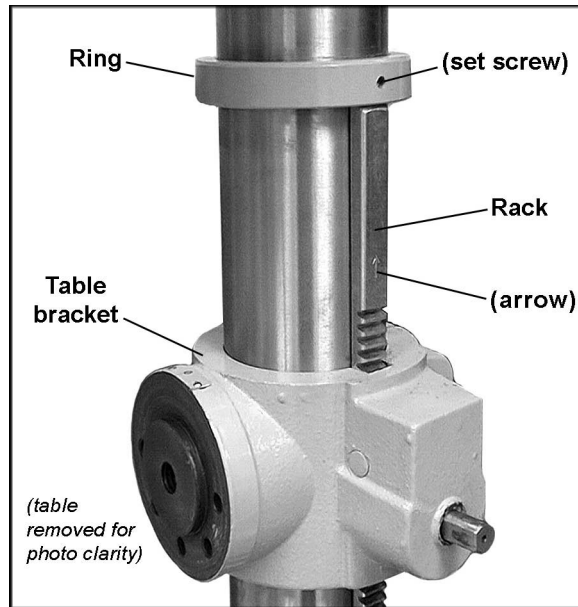

Figure 3
1. Remove the ring from the column by loosening the set screw and sliding the ring off. Also remove the rack. See Figure 3.
2. Set the table bracket (attached to the table) over the column while sliding the rack down through the slot in the table bracket and against the column (Figure 3). The lower end of the rack should rest in the lip of the holder, as shown in Figure 5. Make sure the rack is oriented properly; the *long* flat section should be toward the top and the *short* flat section toward the bottom. (The arrow inscribed on the rack should point upward, as shown in Figure 3.)
- Place the ring onto the column and slide it down over the top edge of the rack (see Figure 3). Tighten the set screw on the ring.